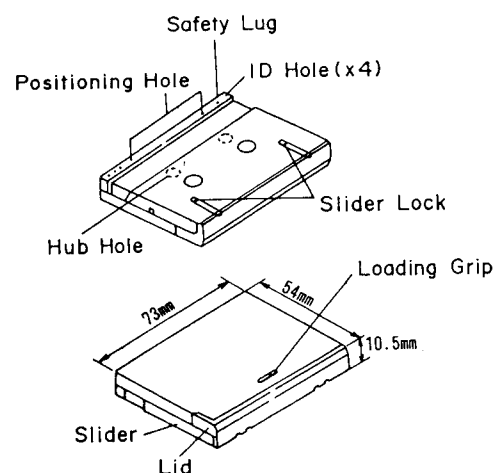

Figure 21-1
- Since the DAT tape is used to record and playback extremely high density data, it must be kept clean. Therefore the close structure is adopted. In no case attempt to open or close the slider at the bottom of cassette and front lid or to touch the tape in cassette with finger. (Fig. 21-1). If tape contaminated by fingerprint or oil is used, the tape travel friction on the drum increases, resulting in undue winding of tape around the drum. In this case clean the head.